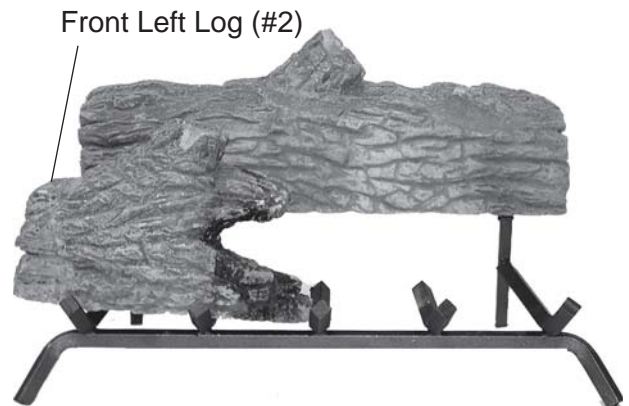

Figure 20 - Placing Front Left Log (#2) on Grate
3. Place front left log #2 on the front of the grate and to the left. See *Figure 20*.